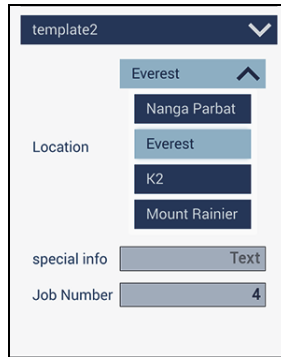

Figure 2-29 Down arrow (Everest) reveals list
5. If available, tap an arrow on the option bar to open its list (see Figure 2-29 on page 47).